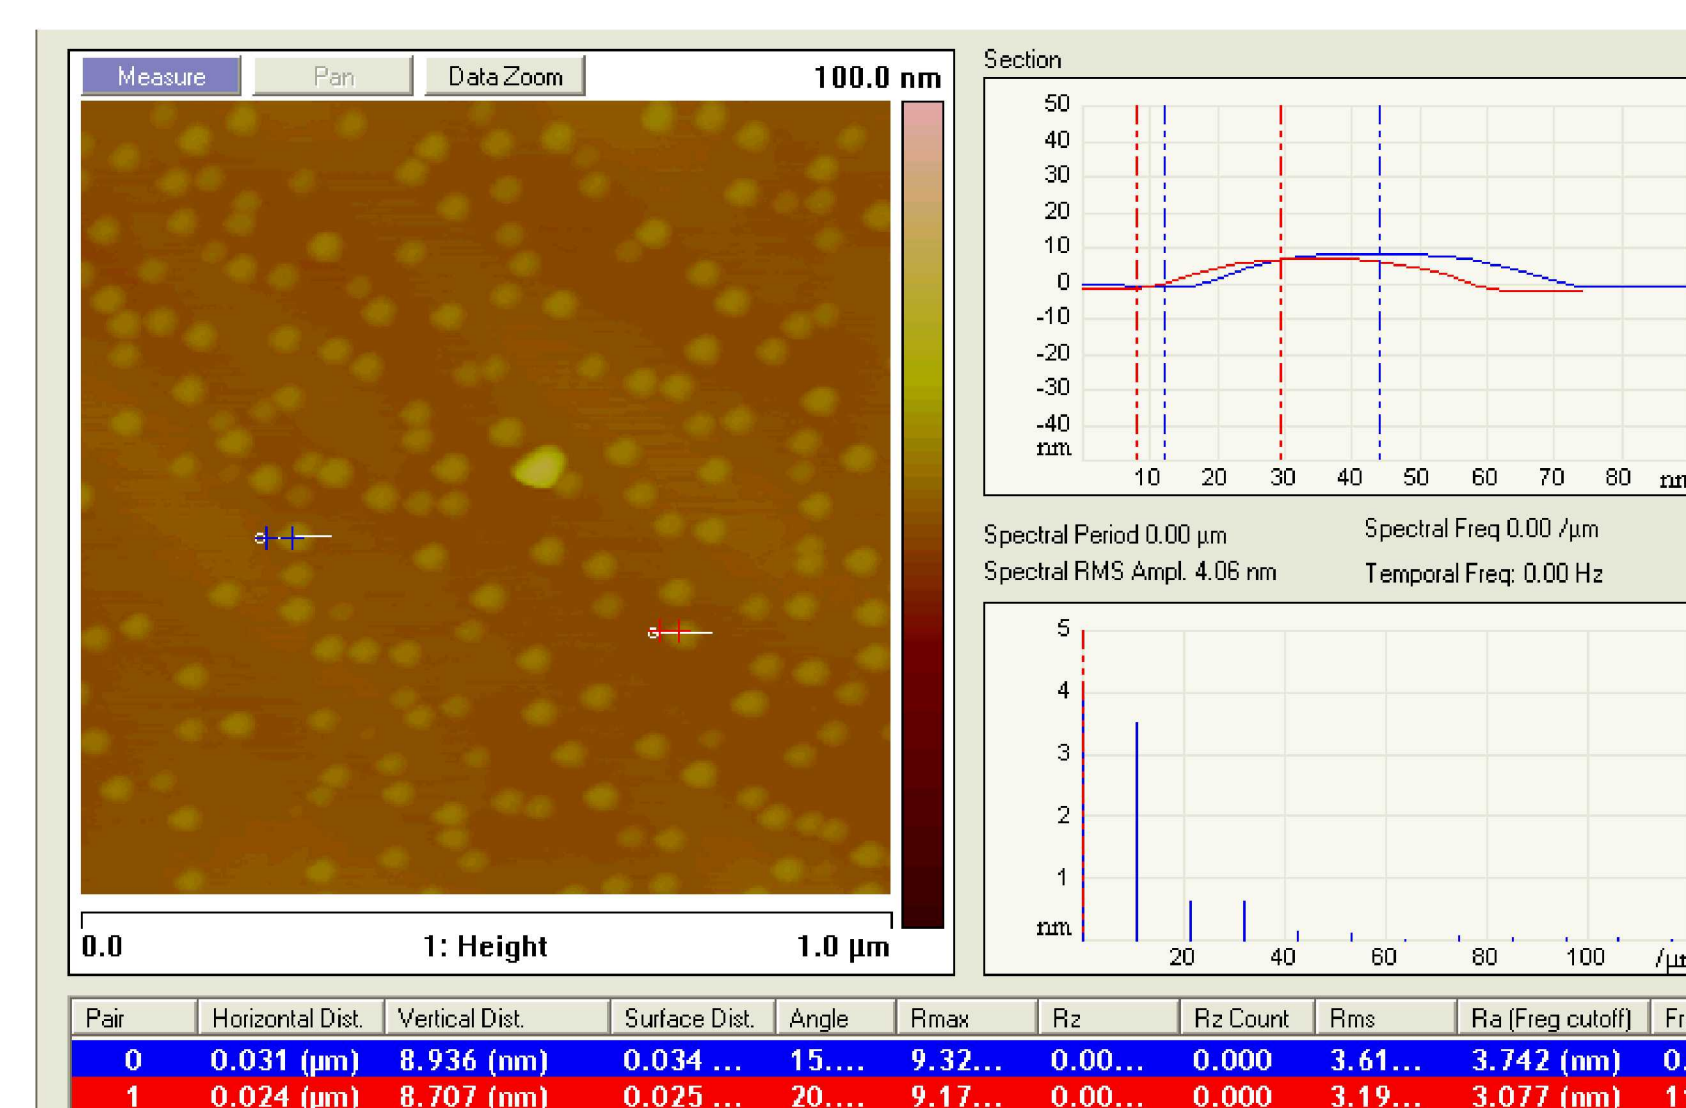

Figure 3: AFM analysis of InAs QDs showing profile and size of typical QDs
- Dimensions: Height – ~8nm ; Width – 50nm (Fig. 3)
- Room-temperature photoluminescence (PL) observed at ~1150nm from samples capped with GaAs.